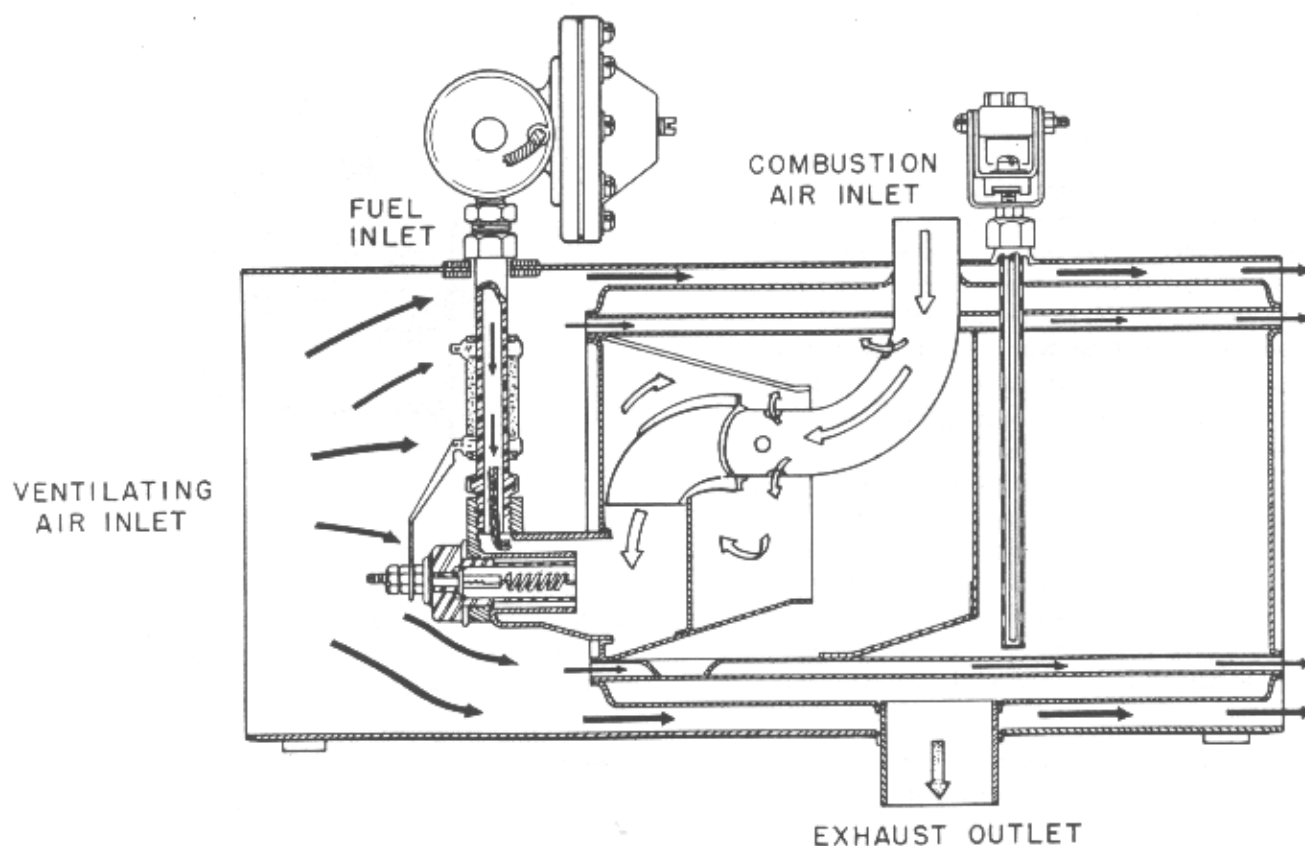

Figure 16—Flow System through Heater
2. When the heater is turned ON, three things occur simultaneously: Fuel is allowed to flow into the heater; the combustion air motor is energized and air is forced into the heater for combustion; and the electric "glow plug" igniter is energized. Within 20 seconds, the gasoline and air mixture will ignite. The burning of this mixture creates a large volume of hot gases which flow through the heat exchanger passages to the exhaust. As the hot gases flow through these passages, they dissipate their heat through the stainless steel walls to the ventilating air, which is forced across the heat exchanger by the ventilating air blower (Figure 16).
4. From the control valve, the gasoline drips down the fuel standpipe, where it collects and saturates the vaporizing pad that extends into the igniter pocket (Figure 16).
1. Air is forced into the combustion chamber by the combustion air blower. Inside this chamber the air mixes with the fuel vapors and forms a highly combustible mixture which is ignited initially by the electric "glow plug" igniter (Figure 16).
1. Air is drawn in and forced through the air passages around the heat exchanger by the ventilating air fan. The air, in passing across the exchanger between the inner and outer chamber, and between the outer chamber and the heater case, absorbs the heat that is being dissipated through the walls by the hot combustion gases (Figures 16 and 20). The heated air is then conducted to the desired heat outlets.